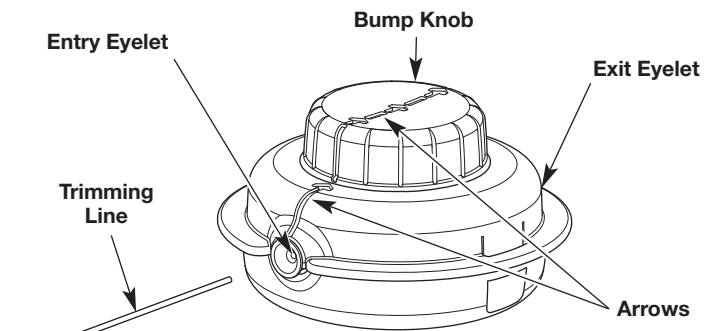

Fig. 14
- Turn the bump knob clockwise to align the arrows (Fig. 14).
- Insert the new trimming line into the entry eyelet (Fig. 14). Push the line through the cutting head until a few inches protrude from the exit eyelet. Pull the protruding line until approximately 10 feet of line extends from each side of the cutting head. Make sure the line lengths on each side are equal.